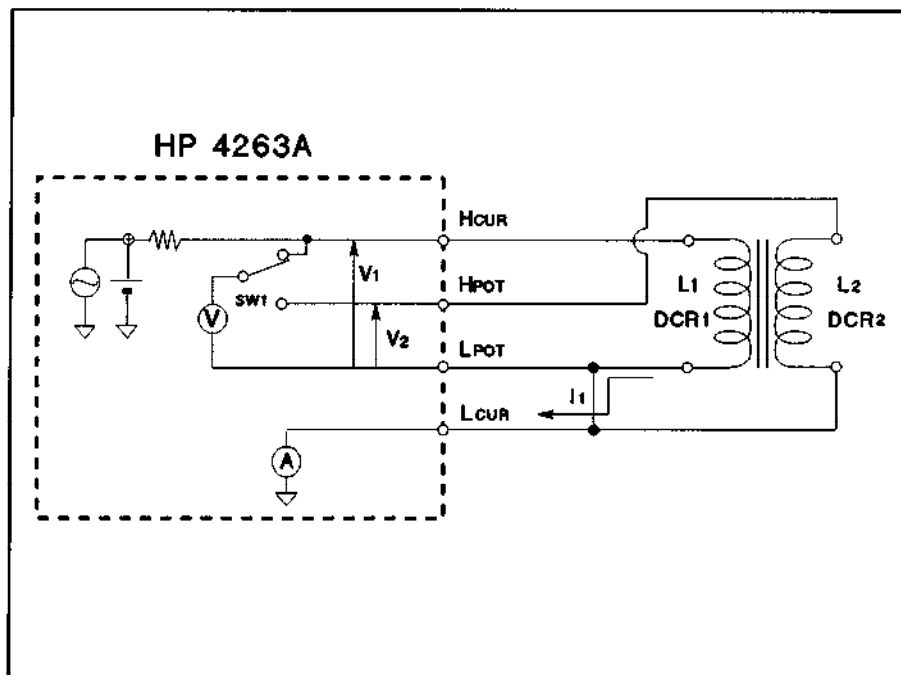

Figure 1. HP 4263A Block Diagram for L, M, and DCR measurement
The HP 4263A LCR Meter is a low price instrument which measures the fundamental parameters of LCR components with speeds as fast as 25ms, at frequencies of 100, 120, 1k, 10k and 100kHz. In addition, with option 001, the HP 4263A measures turns ratio (N), mutual inductance (M) and d.c.resistance (DCR) which are required for transformer measurement. Figure 1 shows a HP 4263A simple block diagram for L, M, and DCR measurement.